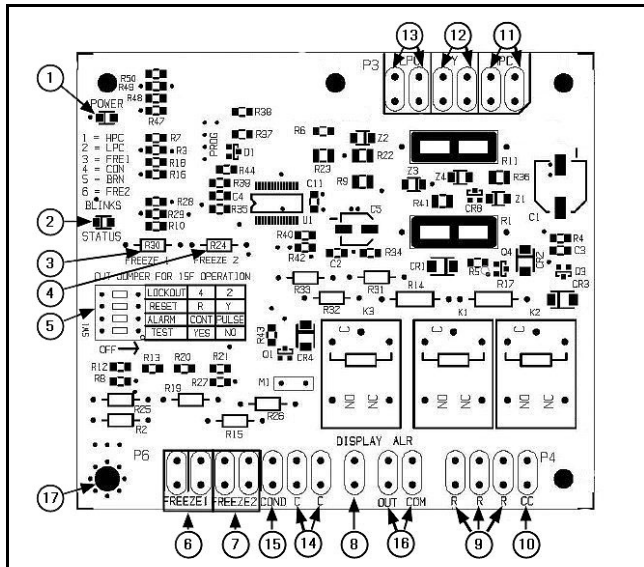
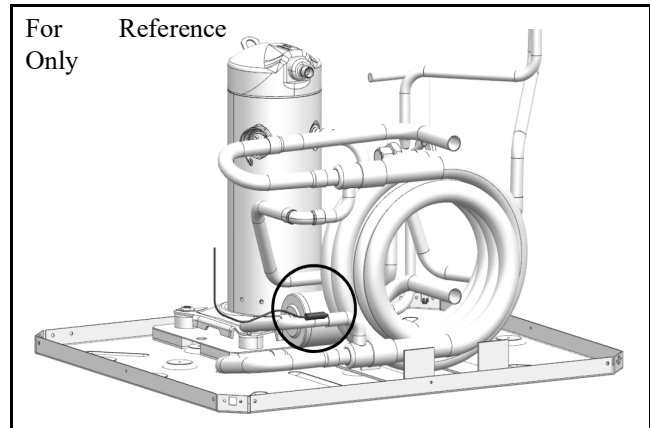

Fig. 7 – UPM controller board
Fig. 8 – Sensor location
NOTE: When a malfunction light is used for diagnostic purposes, the connection is made at the dry contact connection terminals of the UPM board. Shown in Fig. 7.
- Water-side freeze protection sensor, mounted close to condensing water coil, monitors refrigerant temperature between condensing water coil and thermal expansion valve. If temperature drops below or remains at freeze limit trip for 30 seconds, the controller will shut down the compressor and enter into a soft-lockout condition. The default freeze limit trip is 26°F; however, this can be changed to 15°F by cutting the R30 or Freeze1 resistor located on top of DIP switch SW1 (Refer to Fig. 7, item 3 for resistor location), refer to Fig. 8 for sensor location.
- **FREEZE SENSOR:** The default setting for the freeze limit trip is 26°F (sensor number 1); however, this can be changed to 15°F by cutting the R30 resistor located on top of the DIP switch SW1. Since Freeze Sensor 2 is dedicated to monitor the load side coil it is recommended to leave the factory default setting on the board. The UPM controller will constantly monitor the refrigerant temperature with the sensor mounted close to the condensing water coil between the thermal expansion valve and water coil. If temperature drops below or remains at the freeze-limit trip for 30 seconds, the controller will shut the compressor down and enter into a soft-lockout condition. Both the status LED and the Alarm contact will be active. The LED will flash (3 times) the code associated with this alarm condition. If this alarm occurs 2 times (or 4 if Dip switch is set to 4) within an hour the UPM controller will enter into a hard-lockout condition. It will constantly monitor the refrigerant temperature with the sensor mounted close to the evaporator between the thermal expansion valve and evaporator coil as shown in Fig. 8. If temperature drops below or remains at the freeze limit trip for 30 seconds, the controller will shut the compressor down and enter into a soft-lockout condition. Both the status LED and the Alarm contact will be active. The LED will flash 6 times the code associated with this alarm condition. If this alarm occurs 2 times (or 4 if Dip switch is set to 4) within an hour the controller will enter into a hard-lockout condition.